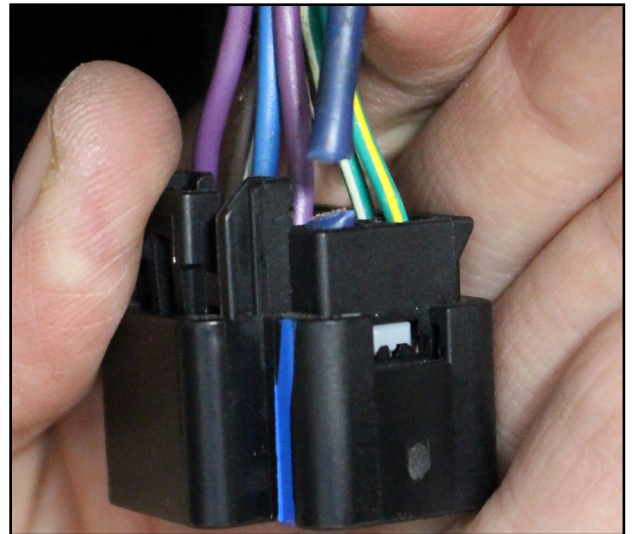

fig. 7a
6. Expose the wires from the headliner harness to isolate the SC999 circuit (blu-wht stripe wire), from the C212 connector, as before cut at the connector, from position "A" again (fig.7a,7b)
NOTE: Cut the wire as close to the connector as possible, there is not much length to make mistakes! (fig 7a,7b) - position A.